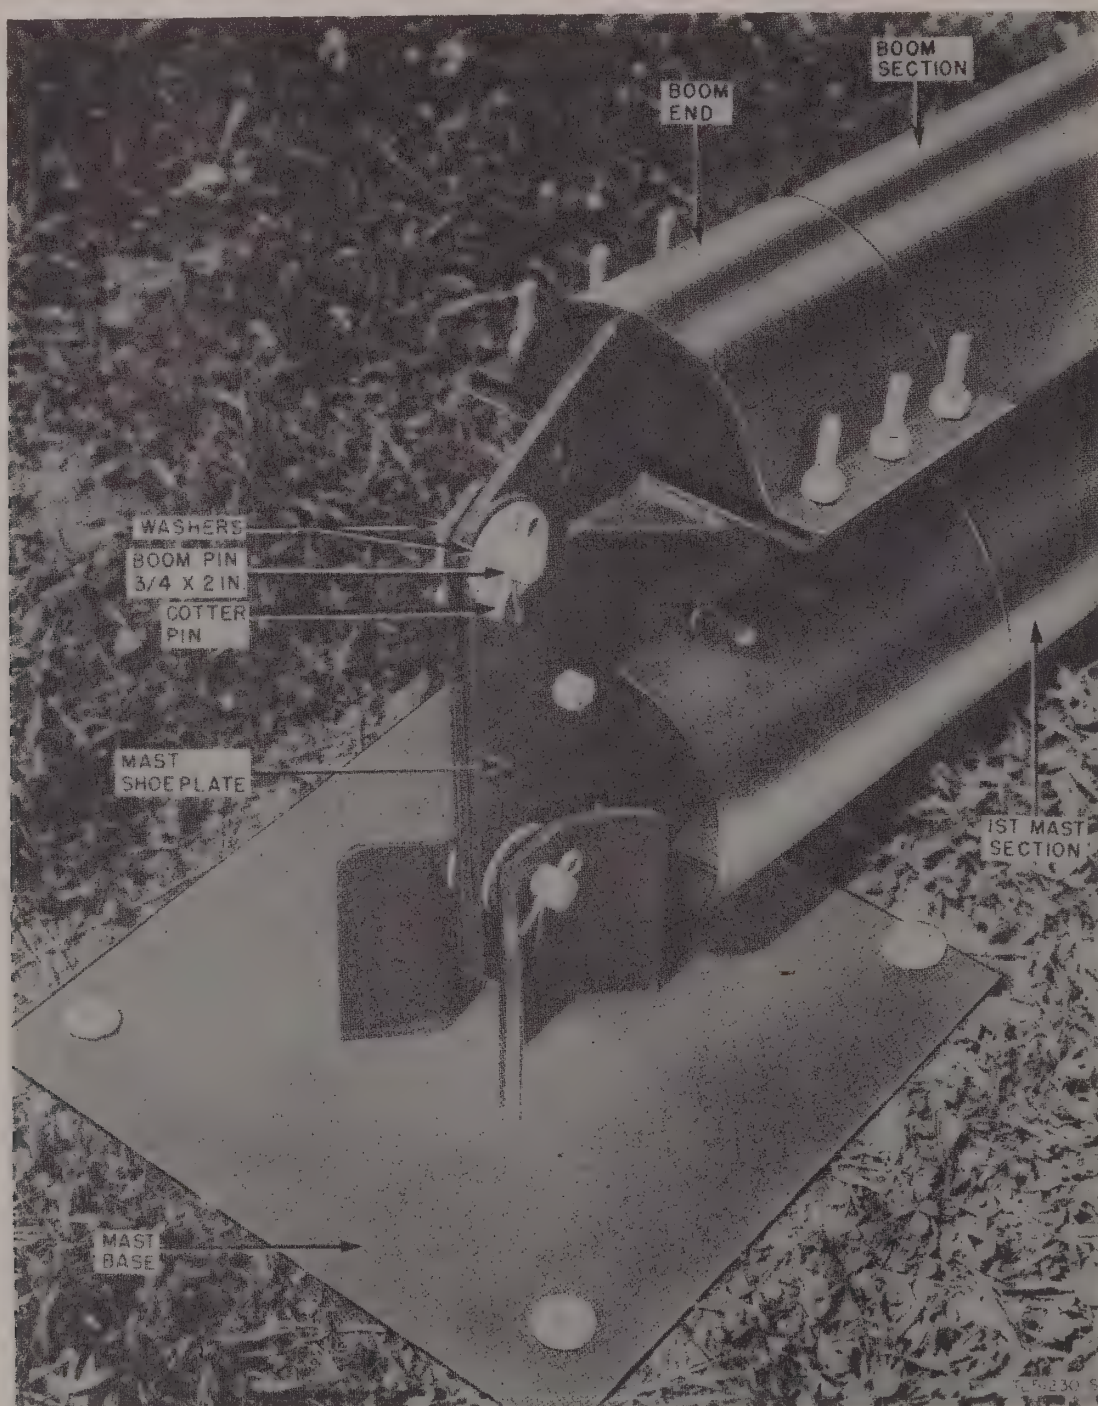

Figure 9. Boom installation.
a. Boom Ends (figs. 9 and 10). Place a boom end on one end of each boom section so that the line of the slots of the boom section are in line with the boom end plate; that is, the line of notches on the boom section is parallel with the boom end plate.
(2) Insert the boom pin ($\frac{3}{4}$ x 2 in.) through the holes in the mast shoe and the boom end plates. Secure with washers and cotter pin (fig. 9).